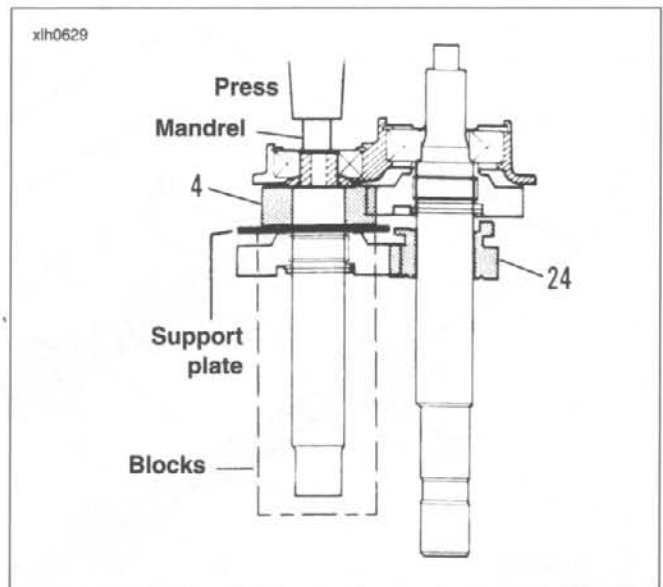

Figure 6-41.
7. See Figure 6-41. Place COUNTERSHAFT GEAR SUPPORT PLATE (Part No. HD-37404) under countershaft 4th gear (4). Place assembly on press with suitable metal blocks under the support plate. Place a socket or mandrel, smaller than inside diameter of bearing, and press countershaft free of access cover. Slide mainshaft 1st gear (24) off mainshaft.